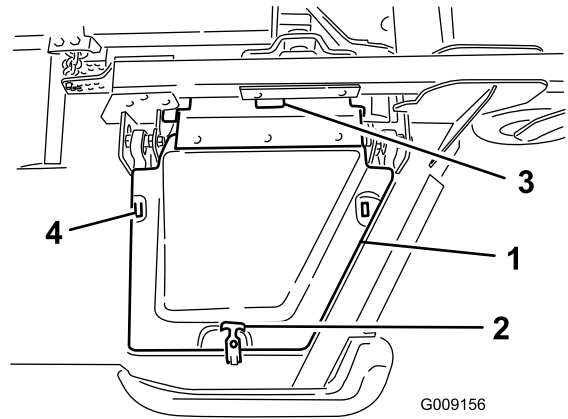

Figure 6
- Install the winglet deck cover and secure with rubber latch (Figure 6).